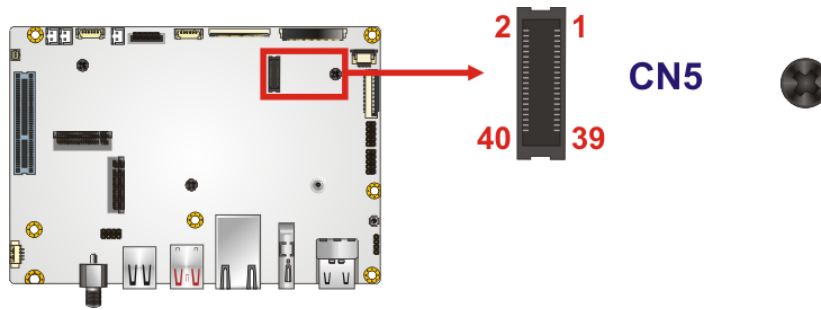

Figure 3-18: Wi-Fi/Bluetooth Module Slot Location
- CN Location:** See **Figure 3-18**